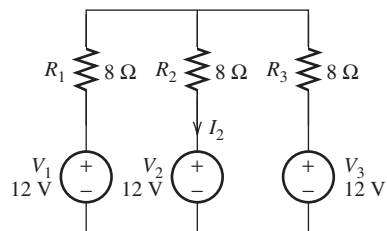

FIGURE P3.63 Circuit for Problem 3.63.
3.63 (B) Find the current I_2 in Figure P3.63 using the superposition technique.